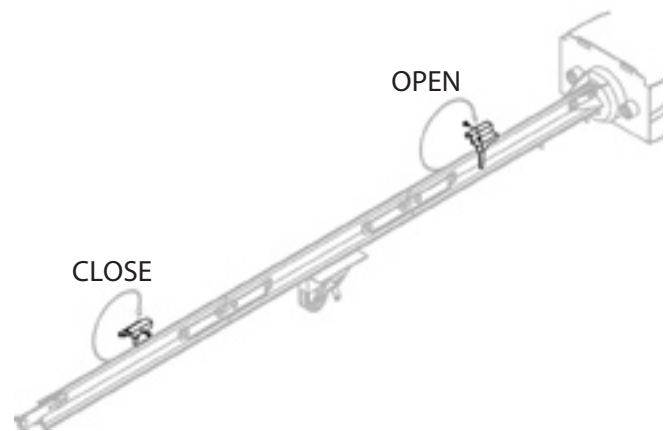

Figure MA-2 Making Force Adjustments
- Observe if door stops at “CLOSE” limit switch. (**Figure MA-2**). If door is fully closed—adjustment is finished. Go to “OPEN” Adjustment.
- Observe if door stops at “OPEN” limit switch. (**Figure MA-2**). If door is fully open—adjustment is finished.